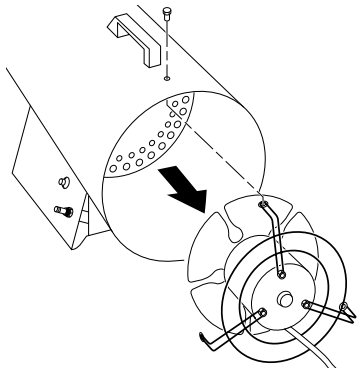

Figure 7 - Removing Motor and Fan Guard from Heater
2. Remove motor and fan guard from heater shell (See Figure 7).